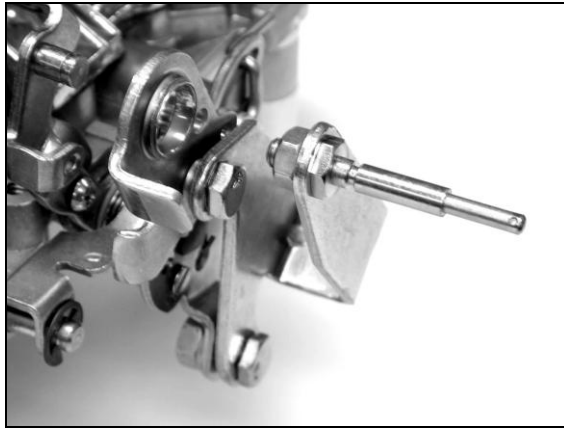

Figure 1—Chrysler applications
1. If you are replacing an existing Holley® carburetor, you may need to purchase and install a throttle lever extension (Holley® P/N 20-7) on the carburetor. Remove the throttle stud and nut from the original carburetor. You can purchase a new stud from your Holley® dealer (Holley® P/N 20-67). Install the stud in the throttle extension lever (Figure 1).